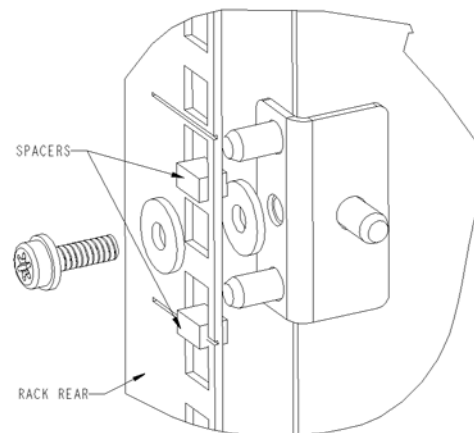

Figure 2-3. Installing the Rear Rail-Tray Brackets (Compaq/Rittal Rack)
- For a Compaq/Rittal rack, assemble each of the two brackets with (2) spacers, (2) M5 flat washers, and (1) M5 Torx head screw with captive lock washers as shown in Figure 2-3. Note that the alignment pins will be resting on the top surfaces of the spacers.